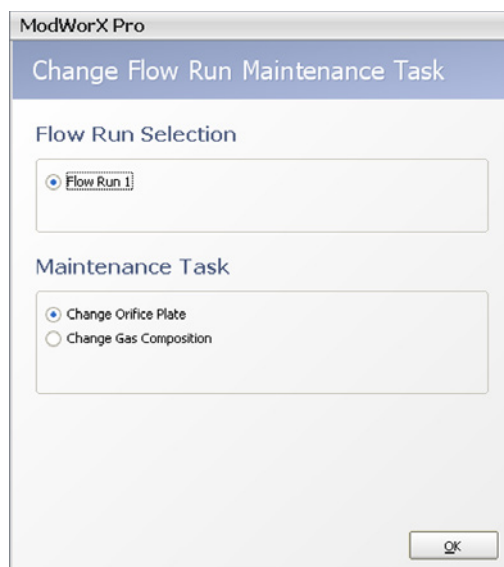

Figure 9.6
1. If Change Gas Composition is not displayed in the Maintenance Task field at the top of the Maintain Flow Run screen, click on **Change Task**. The Change Flow Run Maintenance Task dialog will appear (Figure 9.6, page 128).